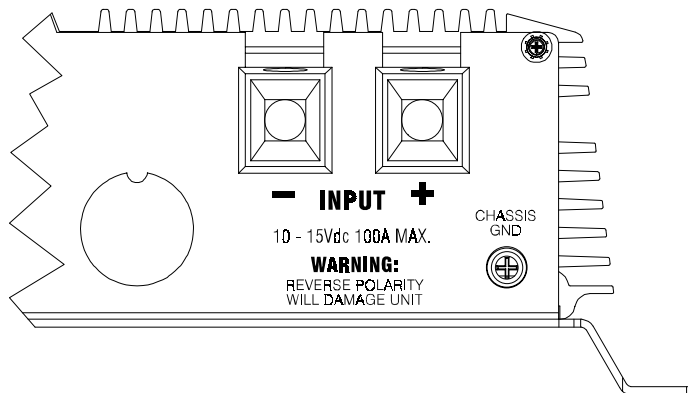

Figure 3-4 Rear Panel Connections
The PROwatt 1000 has a screw terminal labeled **CHASSIS GND** on the outside of the rear panel as shown in Figure 3-4. Follow the guidelines in “Grounding Locations” to connect the inverter’s chassis to the ground.
5. Insert the stripped ends of the cables into the cabling terminals on the DC end of the inverter and tighten the screws securely. The red terminal is positive (+); the black terminal is negative (–). See Figure 3-4.